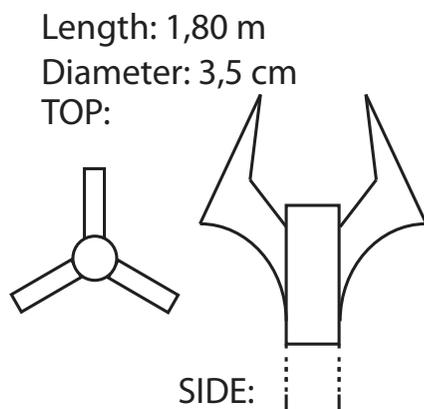

Figure 1: Impression of the staff dimensions
- The device should fit in our staff (as specified in figure 1), barring simple modifications.